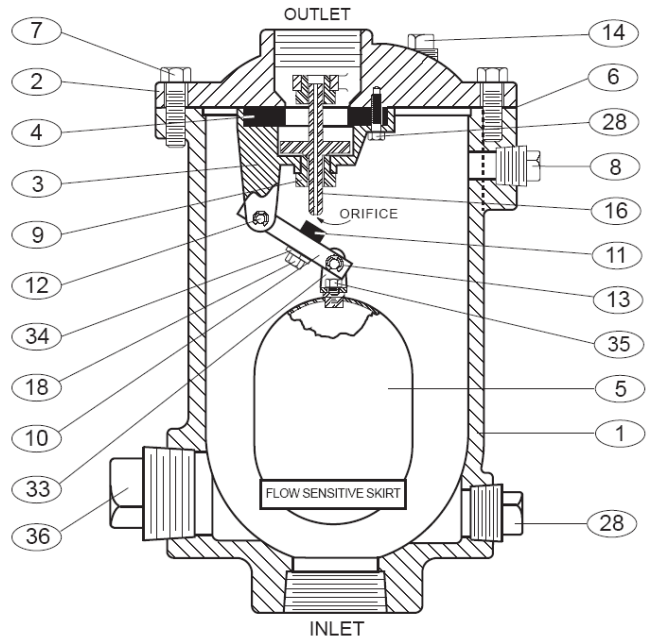

FIGURE 2. 1'-4" WASTEWATER COMBINATION AIR VALVE
The standard Wastewater Surge Suppression Combination Air Valve consists of an air valve and a regulated exhaust device piped on the outlet. See the specific Materials List submitted for the order if other than standard cast iron construction. The general detail of construction for the air valve is illustrated in Figure 2 and listed in Table 1.
1. See Figure 3. Close inlet shut-off valve (A). Open drain valve (B) or remove drain plug. See Figure 5. Unscrew the Regulated Exhaust Device from the top of the valve. Remove the cover bolts (7) on the top cover of the air valve as shown in Figure 2.
2. Pry cover (2) loose with sharp chisel or screwdriver and lift off valve body. The float will be connected to the cover.
3. Remove the retainer screws (28) and inspect the seat (4) and button (11) for cracks in the rubber or wear in the sealing surfaces.
4. Remove the plug (16) from the baffle (3). The small orifice through the plug should be clean. The plug shaft and bushing (9) ID should be polished clean with 4x0 steel wool or 320 grit polishing compound.
5. Turn guide bushing (9) to remove it from the baffle. Remove the retainer rings (13) to disassemble the float arm assembly.
All parts must be cleaned and gasket surfaces should be cleaned with a stiff wire brush in the direction of the serrations or machine marks. Worn parts, gaskets and seals should be replaced during reassembly. Refer to Figure 2.